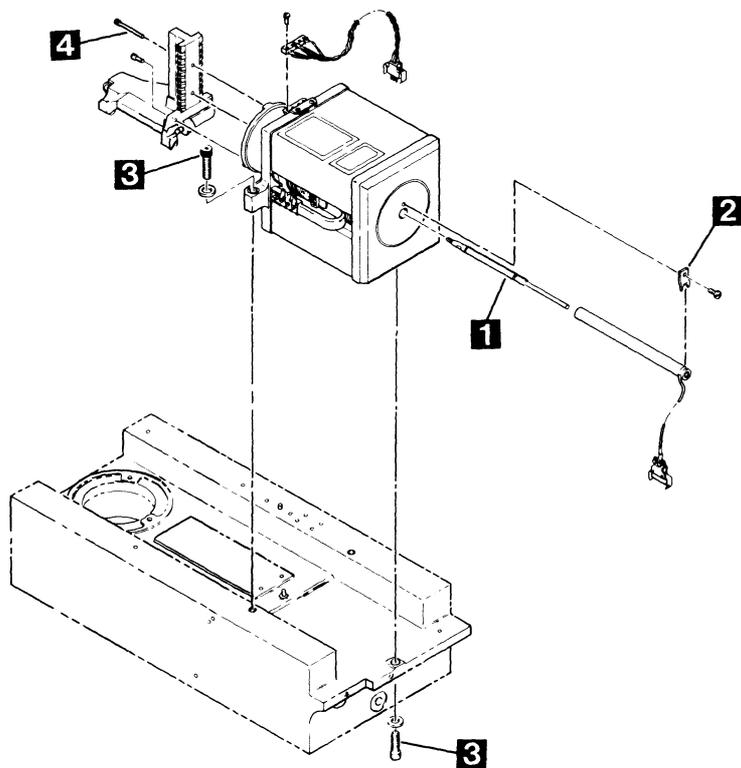

FIGURE 4-17. ACTUATOR MECHANISM
4. Push carriage forward about three inches, then unscrew tach rod ([1] in Figure 4-17) from carriage using a $\frac{1}{4}$ -inch open-end wrench.